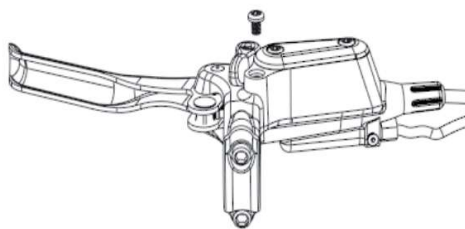
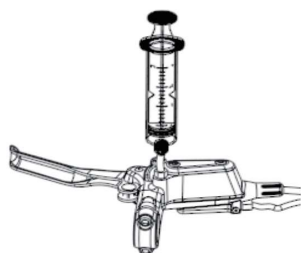

Figure 5-1 Remove the oil inlet screw from the disc brake master cylinder
Figure 5-2 Disc brake body sleeved into oil refill kit
- ① First, make the disc brake reservoir parallel to the ground, then use the T15 Metric wrench to remove the oil reservoir cap screw, and screw in the M6 oil inlet nozzle (as shown in Figure 5-1).
- ② Attach the transparent soft hose to the upper end of the M6 oil inlet nozzle, and connect the other end of the hose to the plastic soft hose.
- ③ Use the syringe attached to the transparent soft hose to draw an appropriate amount of brake fluid from the storage bottle. Be sure to avoid air bubbles in the hose, then attach the syringe to the oil inlet nozzle of the master cylinder (as shown in Figure 5-2).